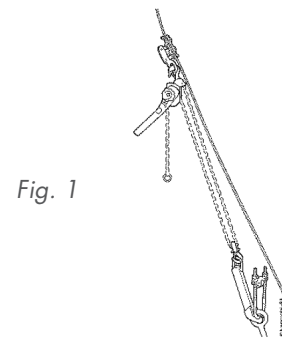

Fig. 1
- Stretch the line with a block to the desired tensioning. Then stretch a little while longer to compensate for what is lost in the unloaded part of the line. Figure 1.